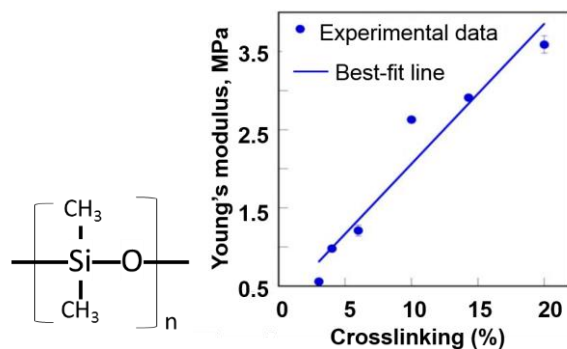

Fig. 1
3. Silicone elastomers have a network structure based on cross-linked polydimethylsiloxane (PDMS) chains. Figure 1 shows the repeated unit of PDMS, and a plot showing experimental data of the Young's modulus of a commercial silicone elastomer as a function of the percentage of crosslinking.
(iv) State the condition(s) for the rubber elasticity equation to be valid. Using your results in (iii), explain the trend of the data presented in Fig. 1. Comment on the Young's modulus values shown in Fig. 1 with respect to the estimated upper and lower limits in (iii). [15%]